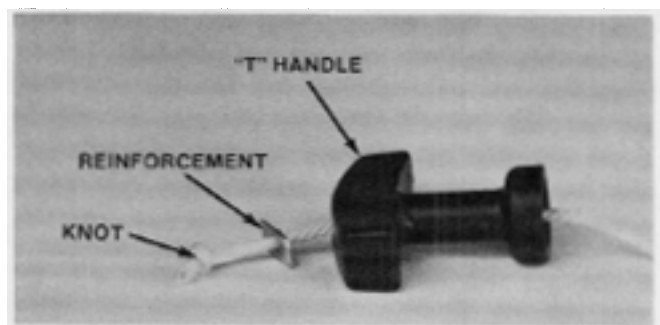

Figure 66
8. Slide the "T" handle then the metal reinforcement onto the recoil rope. Secure by tying a knot in the end of the rope then inserting it into the slot in the top of the "T" handle. See Fig. 66.